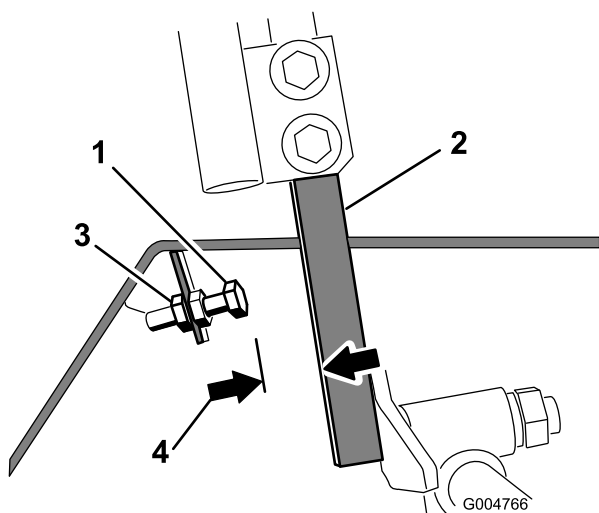

Figure 57
- Loosen the jam nut on the stop bolt for a control lever (Figure 57).